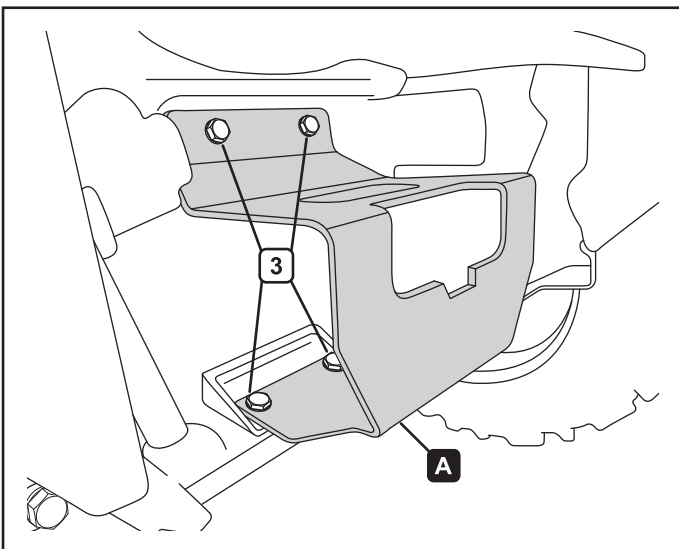

Figure 4.
3. Install winch mount (A) by placing mount over differential bracket and reinstalling bolts (3) removed in step 2, as shown in figure 4.